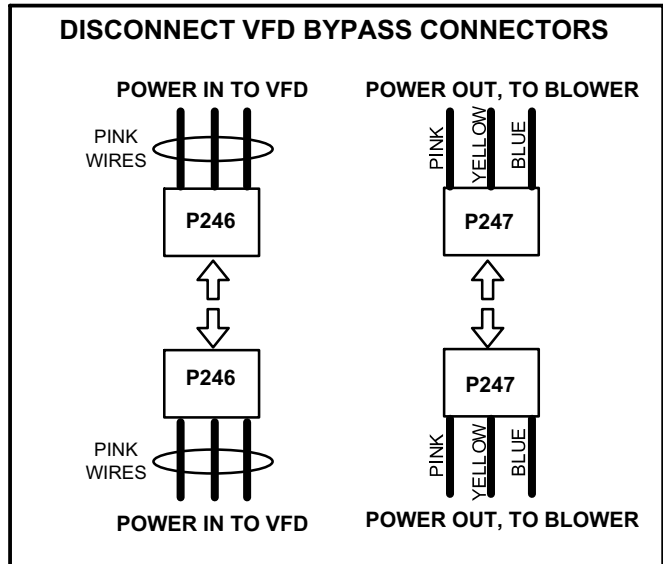

FIGURE 34
- 10- Disconnect P246 from P246 (power in to VFD) and P247 from P247 (power out to blower). See figure 34.